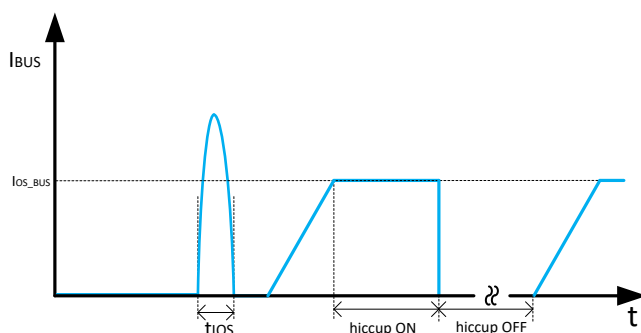

Figure 10-5. Response Time to BUS Short-Circuit
- The first condition is when a short circuit or overload is applied to the USB output when the device is powered up or enabled. There can be inrush current and once it triggers the approximate 8-A threshold, a fast turnoff circuit is activated to turn off the USB power switch within t_{IOS_USB} before the current limit control loop is able to respond (shown in Figure 10-5). After the fast turnoff is triggered, the USB power switch current-sense amplifier is over-driven during this time and momentarily disables the internal N-channel MOSFET to turn off USB port. The current-sense amplifier then recovers and ramps the output current with a soft start. If the USB port is still in overcurrent condition, the short circuit and overload hold the output near zero potential with respect to ground and the power switch ramps the output current to I_{OS_BUS} . If the overcurrent limit condition lasts longer than 4.1 ms, the corresponding USB channel enters hiccup mode with 524 ms of off-time and 4.1 ms of on-time.